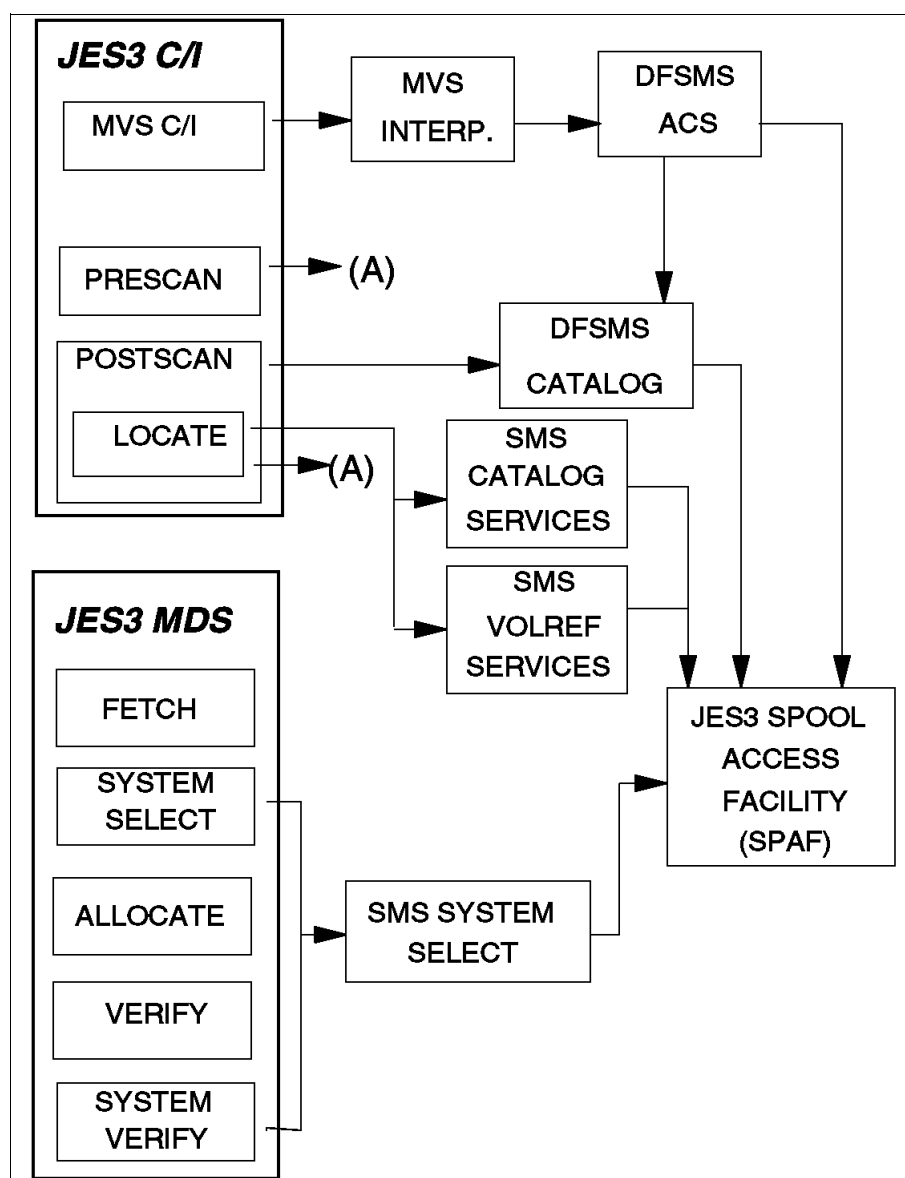

Figure C-11 JES3 CI and MDS processing phases
- ▶ Two calls, one from the prescan phase and the other call from the locate processing phase, are made to the new DFSMS support module, as shown in Figure C-11 on page 922.
Figure C-11 shows the JES3 processing phases for CI and MDS. The processing phases include the support for system-managed direct access storage device (DASD) data sets.